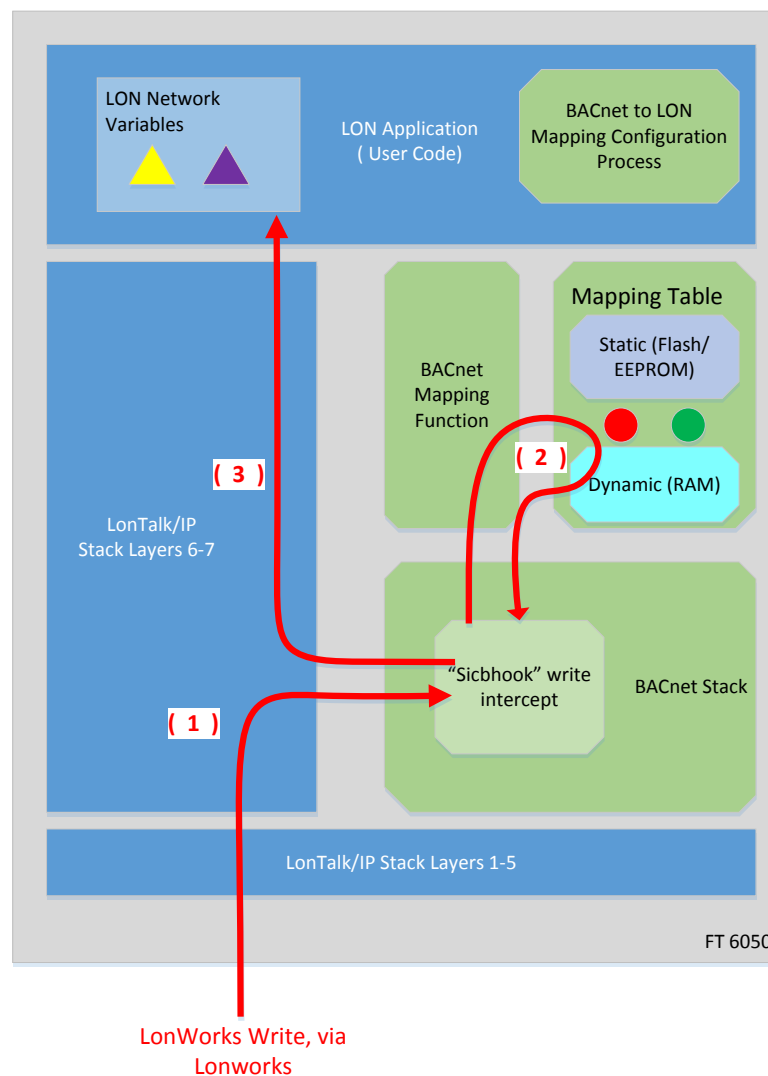

Figure 4. Data Flow during LON Write
A BACnet Write operation is received as a LonTalk/IP foreign frame message with a message code specifying the payload is a BACnet/IP message. As shown in Figure 4, when the message is received by the LonTalk/IP Stack (1) it is routed through the Neuron BACnet Stack which extracts the BACnet properties and values, packages them as a LonTalk/IP network variable update, and passes the network variable update back to the LonTalk/IP Stack for further processing.